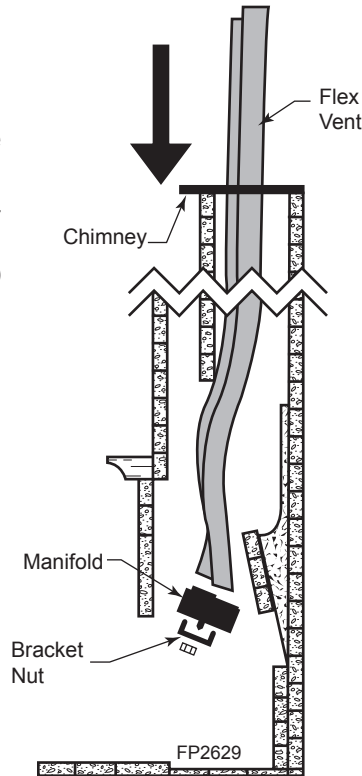

Figure 10 - Place Manifold into Fireplace
3. Route flex vent through chimney from above. *Figure 10.* Leave an extra 3" (914 mm) at the top.